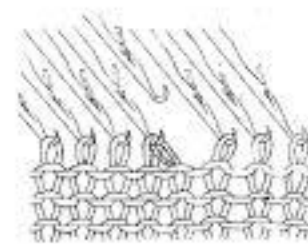

Fig. 39-5
- e) By tilting the handle of the Tool upwards slide the stitch off the Transfer Tool into the hook of the needle. (Fig. 39-5)